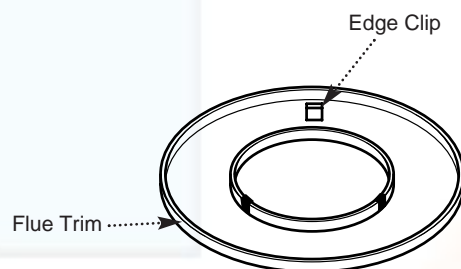

Fig. 29a
b) Take the three edge clips from the kit and fit them equi-spaced onto the inner flange of the trim (Fig. 29a).